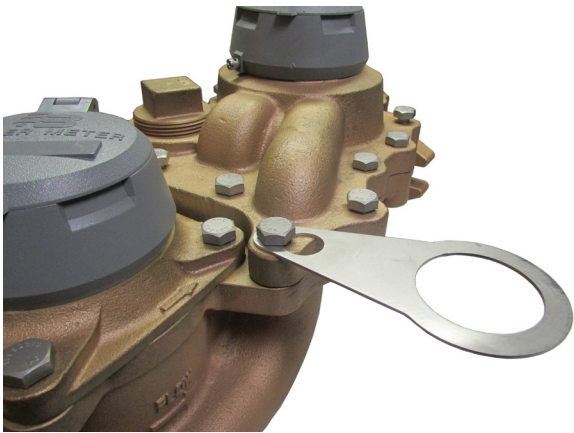

Figure 21: Attached bracket with bolt
**NOTE:** For visual clarity, the photo in Figure 21 shows the bracket attached without the endpoint.